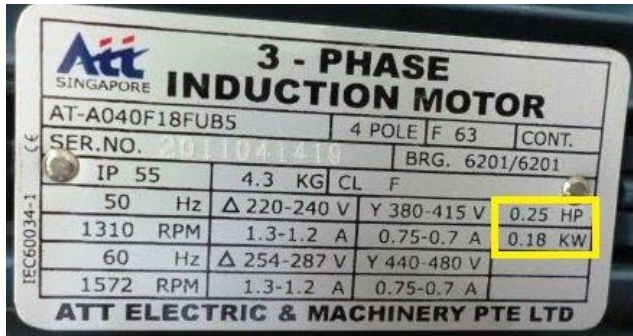

Figure 1
3. [3] Refer to the motor plate shown in Figure 1.